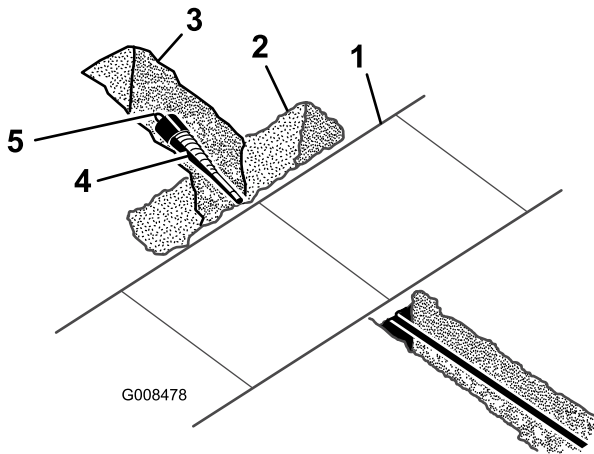

Figure 30
1. With a shovel, carefully dig around the boring bit clearing it of soil until it can be removed (Figure 30).
2. Remove the boring bit and attach the reamer (Figure 30).
3. Attach the cable or piping being installed to the swivel on the end of the reamer (Figure 30).